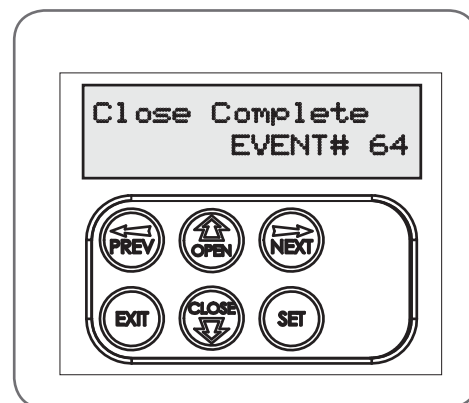

Fig D.5
The NeoSlider™ keeps a record of the last 64 events that have taken place. The events include the type of drive cycles executed, obstruction detection, various faults, power failures etc. When this tool is selected, the screen displays the last event that occurred (Fig. D.5). Press NEXT or PREV to view each event. The "EVENT#" field shows the sequence of the events, with (1) being the first and (64) being the last. The example shows that the last event was a close cycle which succeeded in closing the gate. When finished viewing the events, press EXIT.